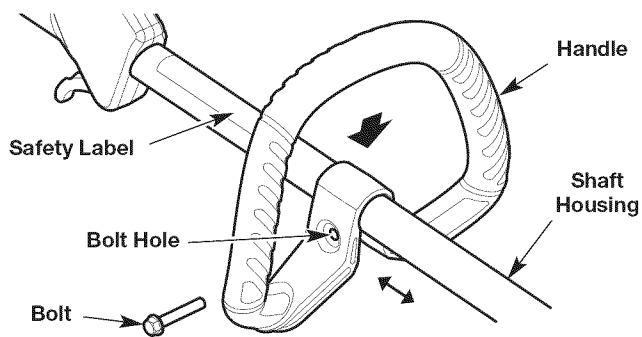

Fig. 4
1. Push the handle down onto the shaft housing (Fig. 4). Make sure the bolt hole faces to the right (Fig. 4).
2. Insert the bolt into the bolt hole and push it through (Fig. 4). Tighten the bolt with a flat-head screwdriver, but do not tighten the bolt completely.
3. Hold the unit in the operating position (Fig. 17) and move the handle to a comfortable location (Fig. 4). Make sure the handle is positioned beyond the end of the safety label (Fig. 4).
1. Loosen the bolt with a flat-head screwdriver (Fig. 4).
2. Hold the unit in the operating position (Fig. 17) and move the handle to a comfortable location (Fig. 4). Make sure the handle is positioned beyond the end of the safety label (Fig. 4).